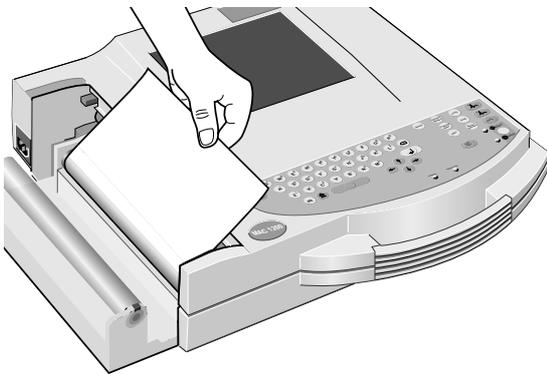

Figure 10-3. Guiding the leading paper edge over the guide roller
- Pull the top sheet from the compartment and guide it around the guide roller (Figure 10-3).